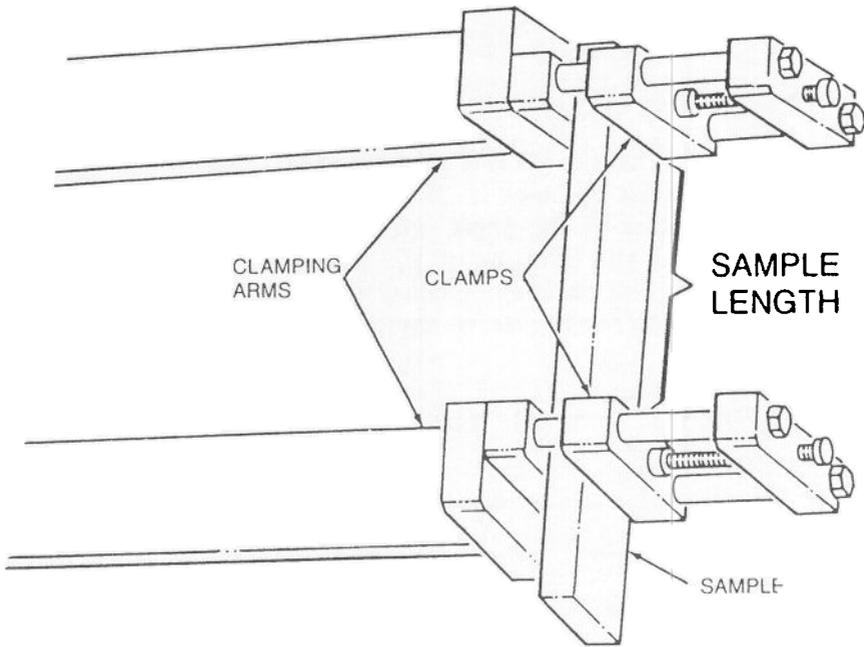

Figure 4.3
- Measure the sample length as the distance between the inner edges of the clamps (see Figure 4.3).
- Measure the sample length as the distance between the inner edges of the clamps (see Figure 4.3 on page 16).